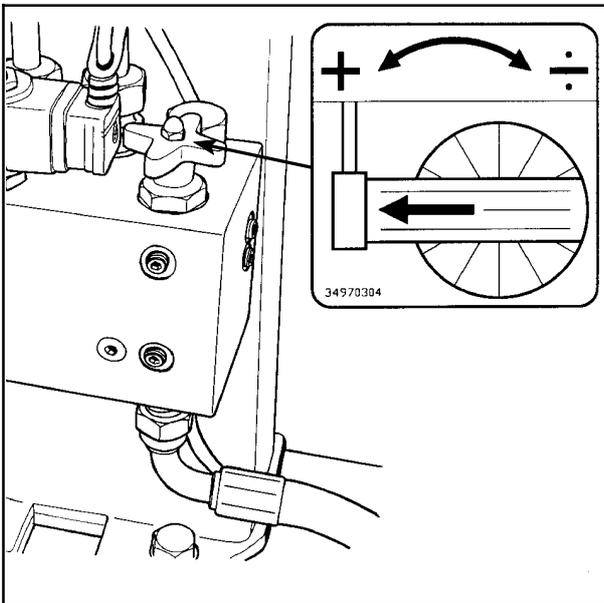

Fig. 8-1
8.2 The control valve on the right-hand side, is for adjustment of the wrapping arm speed. (See fig. 8-1).